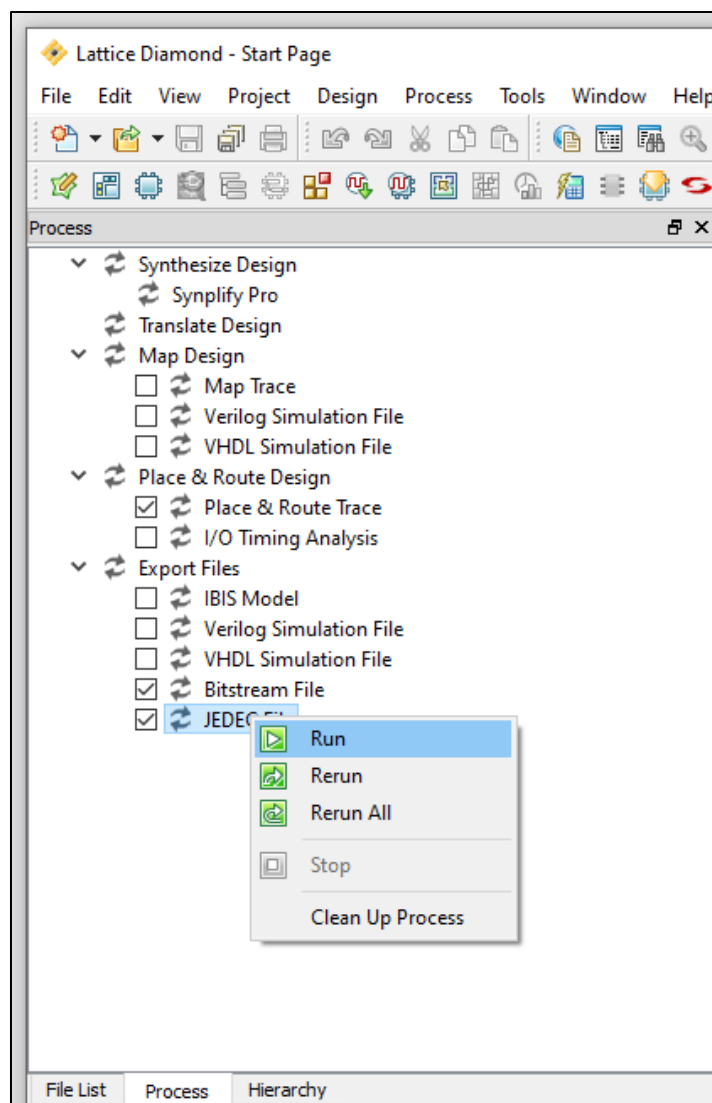

Figure 3.14. Process Tab
9. Select the **Process** tab, as shown in Figure 3.14.